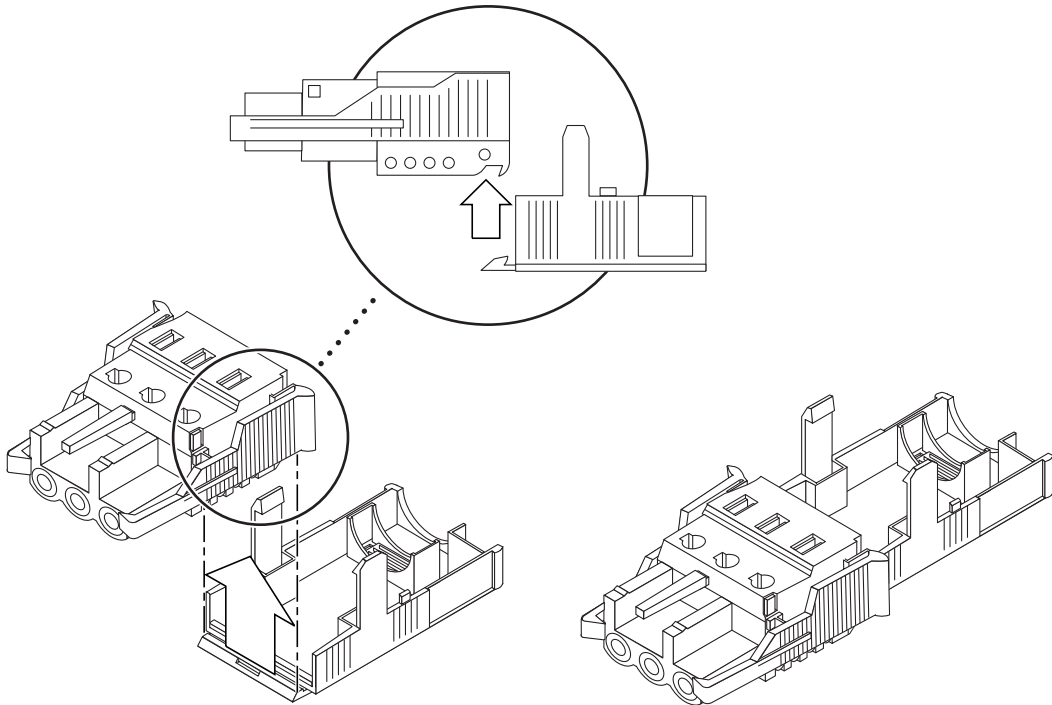

FIGURE 3-5 Inserting the Bottom Portion of the Strain Relief Housing
1. **Take the DC connector and insert the bottom portion of the strain relief housing into the notch on the DC connector until it snaps into place (see FIGURE 3-5).**